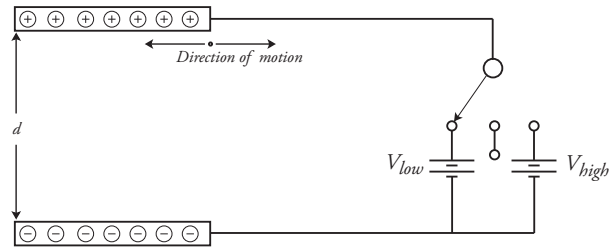

Figure 11-1: Charge pump
The device uses several metal plates hidden in the machinery of the conveyor belt. As the conveyor belt turns, the metal plates in its upper and lower surfaces cross each other and simulate a capacitor with a changing area. Figure 11-1 shows the laboratory prototype with a fixed lower plate and a moving upper plate.
One of the plates is wired to a three-way switch (see the circuit in Figure 11-1) that can connect it to a low-voltage battery with voltage V_{low} volts, a high-voltage battery with voltage V_{high} volts, or neither.
- Perfect alignment of the plates (shown in Figure 11-1) occurs when $A = A_{max}$, and as the overlap decreases the charge decreases as well.